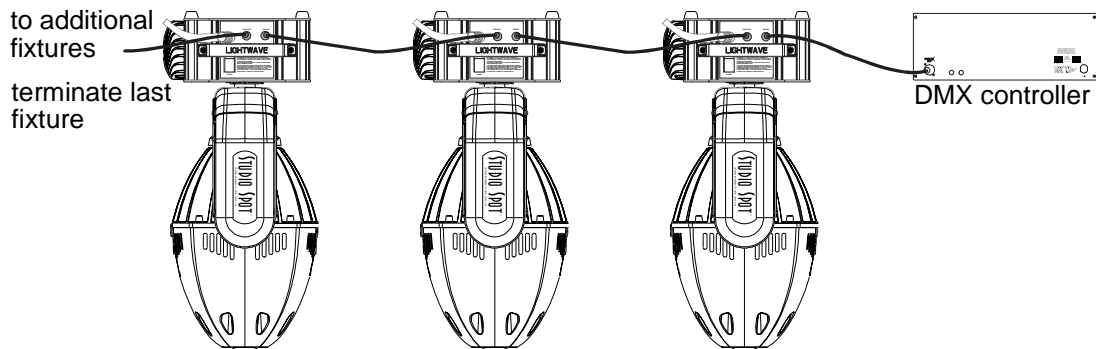

Figure 1.10 Daisy Chaining Fixtures
2. Daisy chain additional fixtures by connecting cables from the DATA OUT connector to the DATA IN connectors on subsequent fixtures. Refer to Figure 1.10.